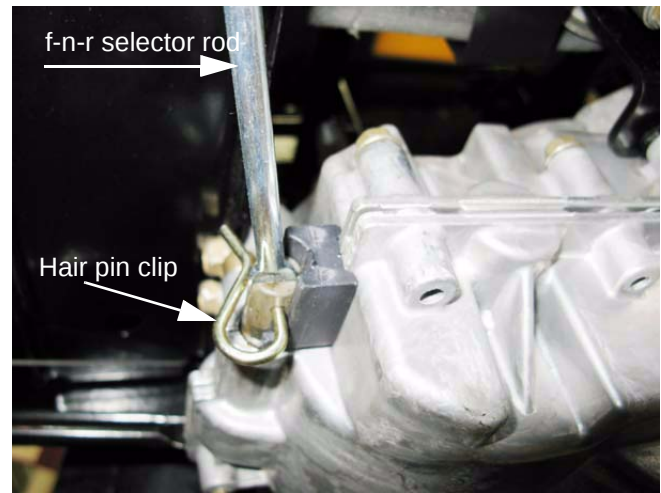

Figure 6.78
7. Disconnect the forward-neutral-reverse gear selector rod from the transmission by removing the hair pin clip. See Figure 6.78.